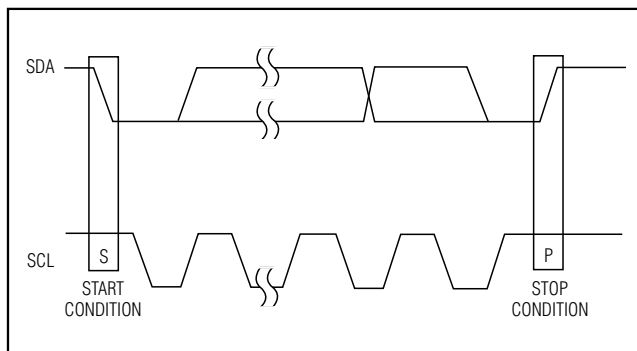

Figure 6. Start and Stop Conditions
Each transmission consists of a START condition sent by a master, followed by the MAX6618 7-bit slave address, plus an R/\overline{W} bit, one or more data bytes, and finally a STOP condition (Figure 6). To write to a MAX6618 register, a write transmission consists of a START condition, followed by the MAX6618 7-bit slave address plus $R/\overline{W} = 0$, a register address byte, one data byte, and finally a STOP condition. To read from a MAX6618 register, a combined write and read transmissions are required. The first write transmission consists of a START condition, followed by the MAX6618 7-bit slave address plus $R/\overline{W} = 0$, a register address byte, and finally a STOP condition that sets the register to be read. The second read transmission consists of a START condition, followed by the MAX6618 7-bit slave address plus $R/\overline{W} = 1$, one or more data bytes, and
Both SCL and SDA remain high when the interface is not busy. A master signals the beginning of a transmission with a START (S) condition by transitioning SDA from high to low while SCL is high. When the master has finished communicating with the slave, it issues a STOP (P) condition by transitioning SDA from low to high while SCL is high. The bus is then free for another transmission (Figure 6).
P: I²C STOP CONDITION. SEE FIGURE 6.
S: I²C START CONDITION. SEE FIGURE 6.